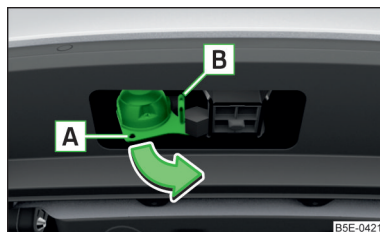

Fig. 171
- Grip the 13-pin socket at point **A** and swing out in the direction of arrow » Fig. 171.
- Grip the 13-pin socket at point **A** and swing in the opposite direction to the arrow » Fig. 171.
The purpose of the safety eyelet **B** » Fig. 171 is to attach the breakaway cable of the trailer.